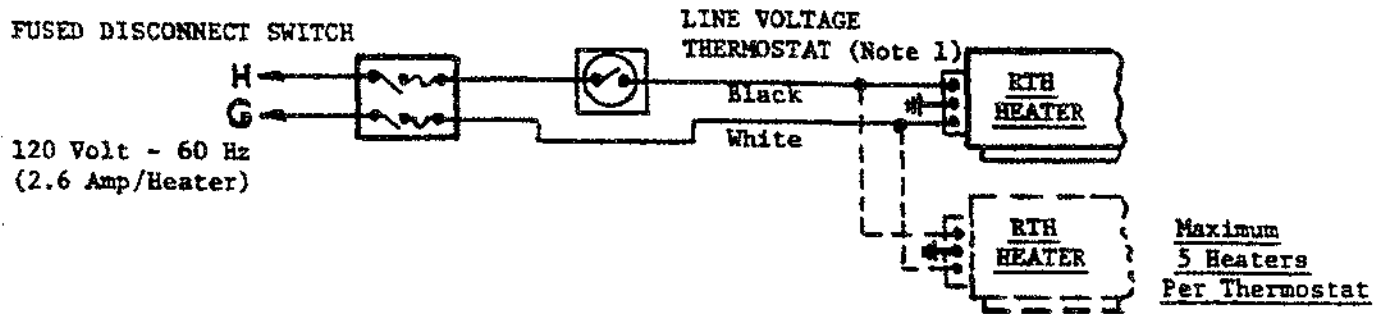
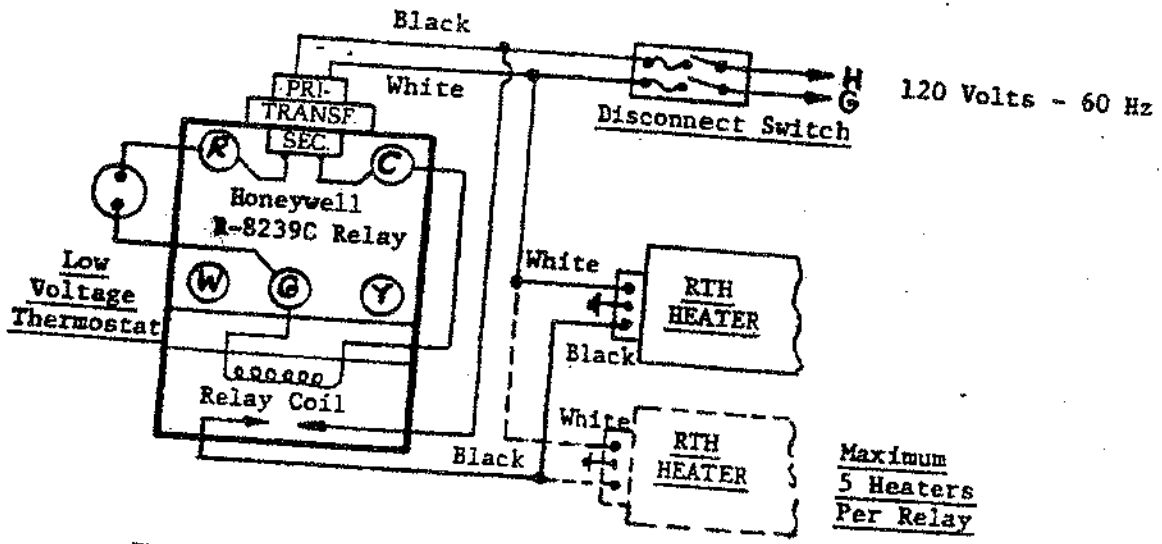

Fig. 4a -- "Field" Wiring of Line Voltage Thermostat
Fig. 5a — "Field" Wiring of Low Voltage Thermostat and Relay
1. Heaters are normally controlled by thermostats (See Fig. 4a & 4b). Line voltage thermostats are wired directly; the recommended 24 volt thermostats use a relay per Figure 5a & 5b. Heaters must be grounded in accordance with National Electrical Code ANSI/NFPA 70-1984. Heaters can also be controlled with a manual line voltage switch or times switch in place of the thermostat.